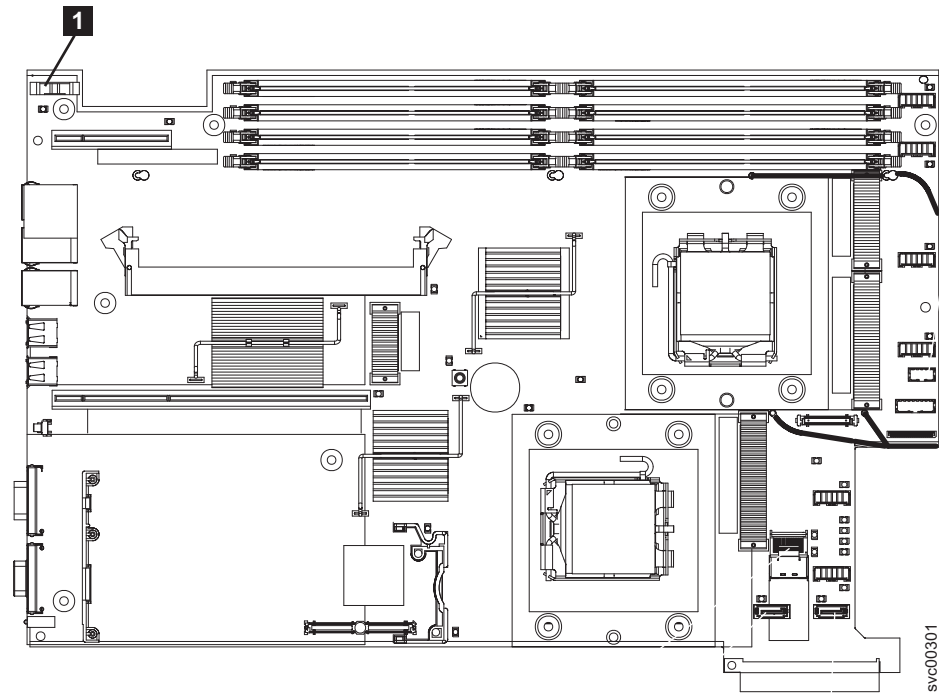

Figure 114. Location of the SAN Volume Controller 2145-8G4 CMOS battery holder
2. Locate the battery on the system board. Figure 114 shows the location (**1**) of the battery.